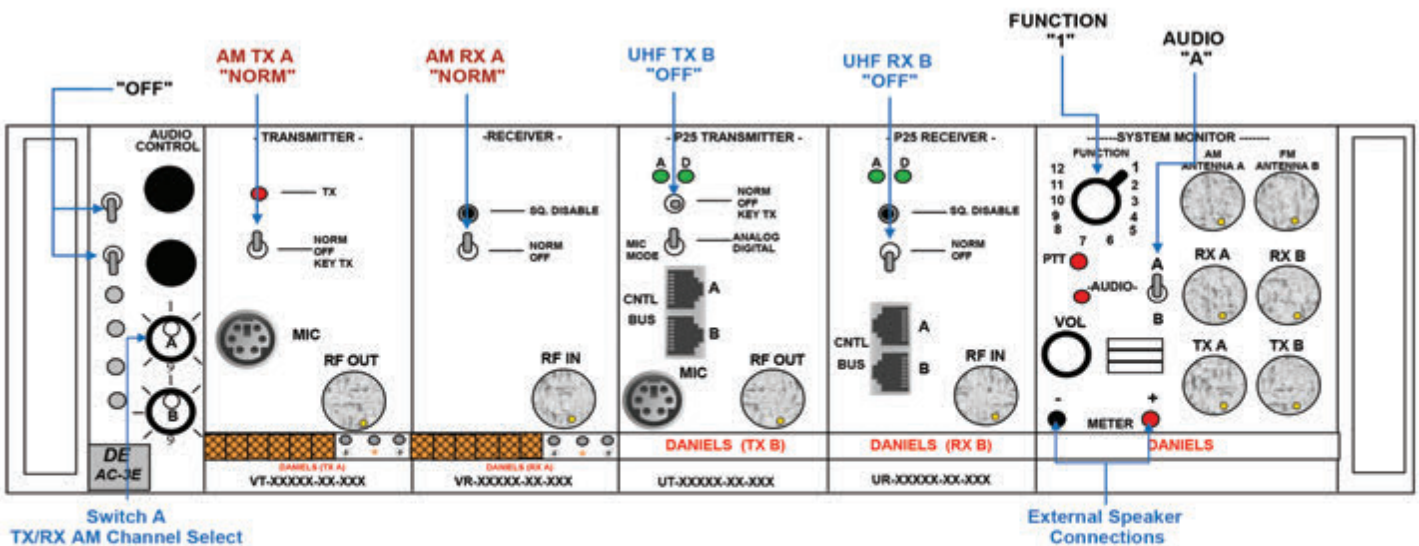

Figure 3:
Setup the AV-1 (AM) Antenna according to the illustration. **(See Figure 3)**
Setup the UHF omni-directional antenna according to the illustration. **(See Figure 3)**